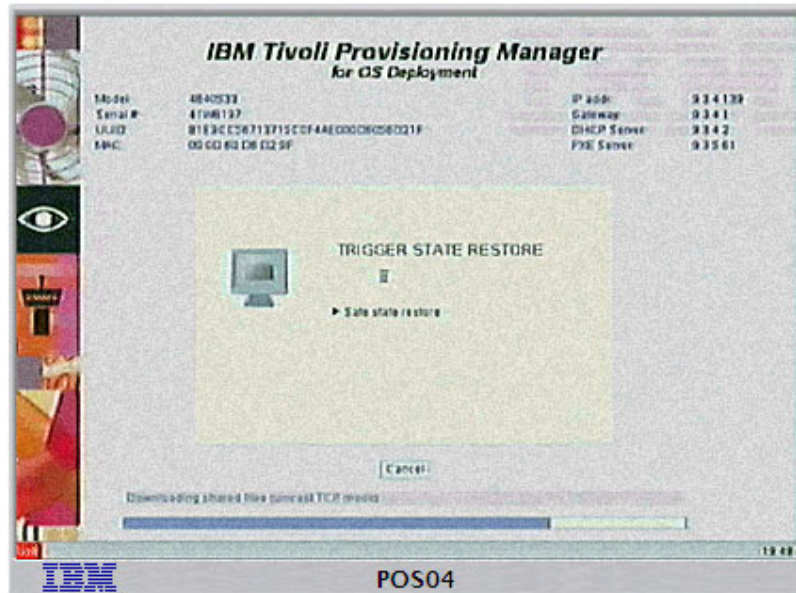

Figure 5-27 POS system connected to Tivoli Provisioning Manager for OS Deployment server
- 10..After POS04 had booted into PXE mode, the restore operation began (Figure 5-27).